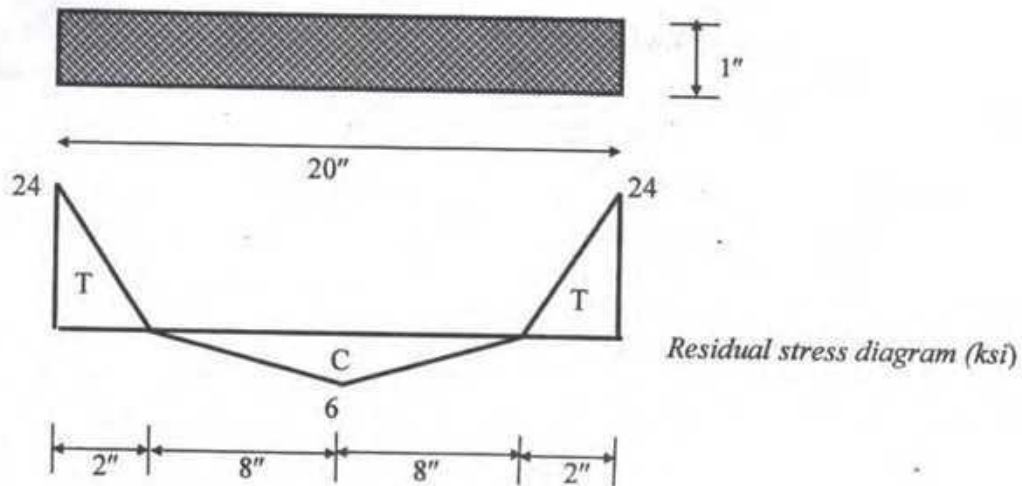

Fig.2
c) Determine the equations for the stress-strain behavior in tension of the 20"×1" plate with the residual stresses shown in Fig.2. Draw a qualitative stress-strain diagram and indicate the equations in the curve [Given:  $F_y=36$  ksi,  $E=30,000$  ksi].